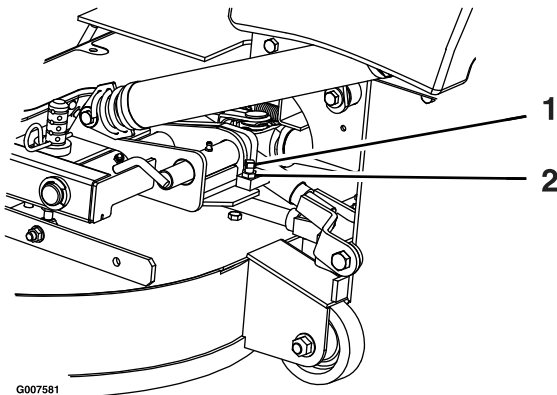

Figure 61
2. Loosen the jam nut and turn the stop screw clockwise until the locking pins is tight and cannot be rotated by hand (Figure 61).